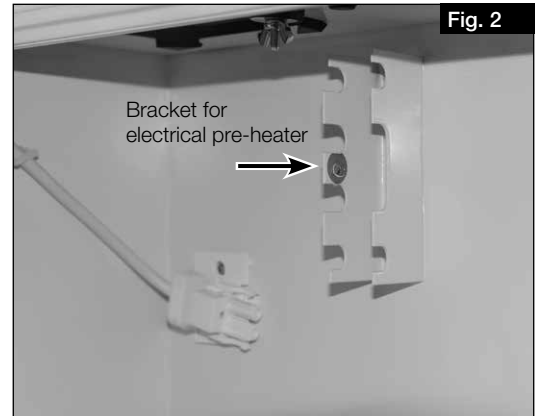
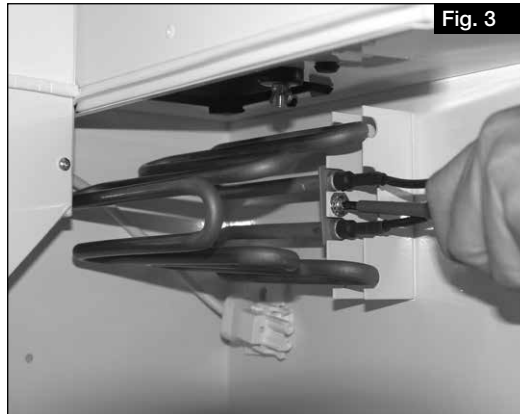

Fig. 2
Fig. 3
4. Screw the electrical pre-heater to the provided bracket with the provided screw and lock washer (see Fig. 2 and Fig. 3).